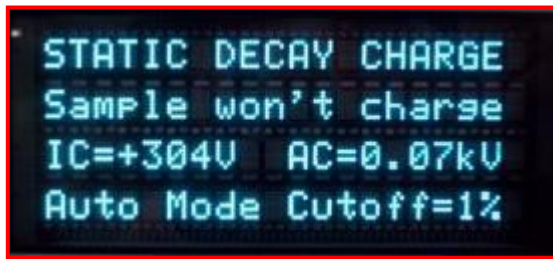

Figure 6-2: Display for a sample that won't charge.
- b. If the sample does accept at least 250V/sec after the charging voltage is applied, it will continue to be charged for 60 seconds at which time the amount of charge accepted due to the applied charge will be displayed as **AC=**. If the sample does not increase after the 5.00kV has been applied the test will be aborted and the display will read "**Sample won't charge**" as shown in Figure 6-2. A material with these characteristics is generally very insulative and any field detected is charge residing on the surface of the sample.